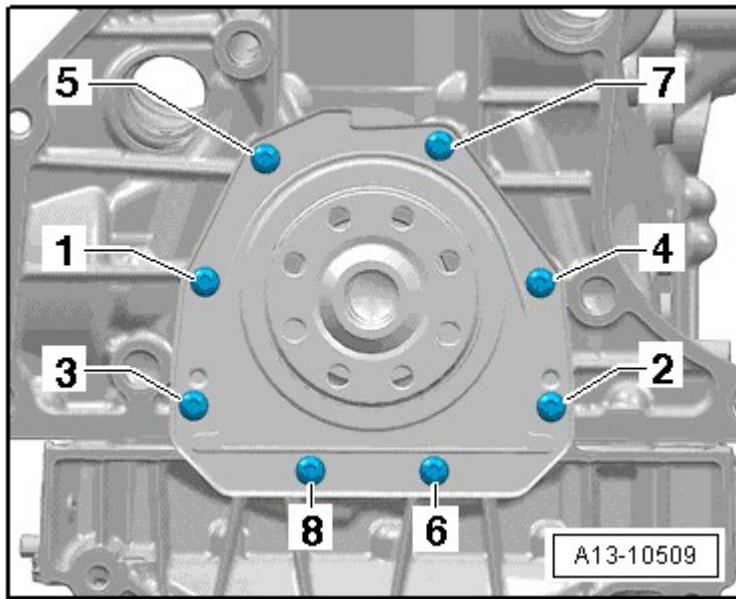

Fig. 5: Identifying Sealing Flange Tightening Sequence
- Tightening sequence with 8 bolts, refer to **Fig. 5**